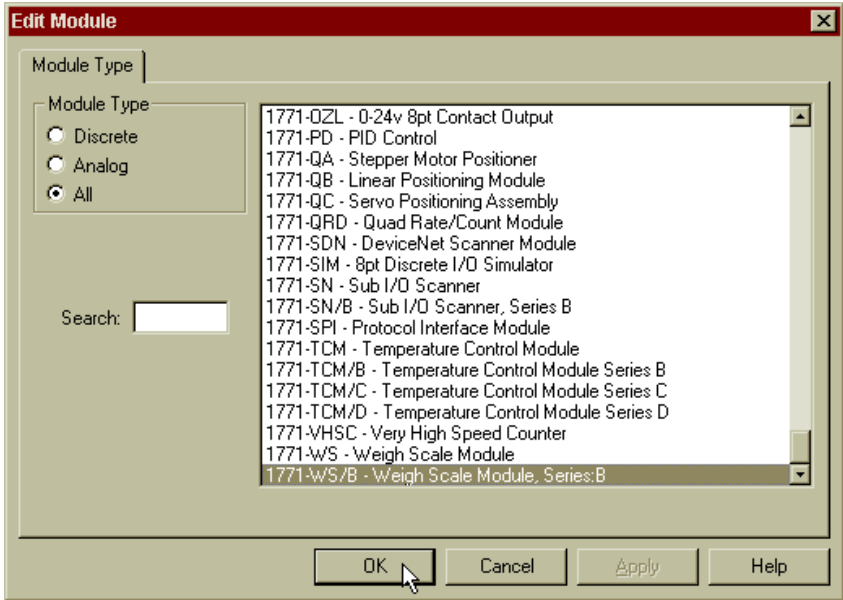

FIG. 4-14 EDIT MODULE DISPLAY/ALL MODULES DISPLAYED
Step 8. Click on Insert Module. The Edit Module display appears. (See Fig. 4-14)